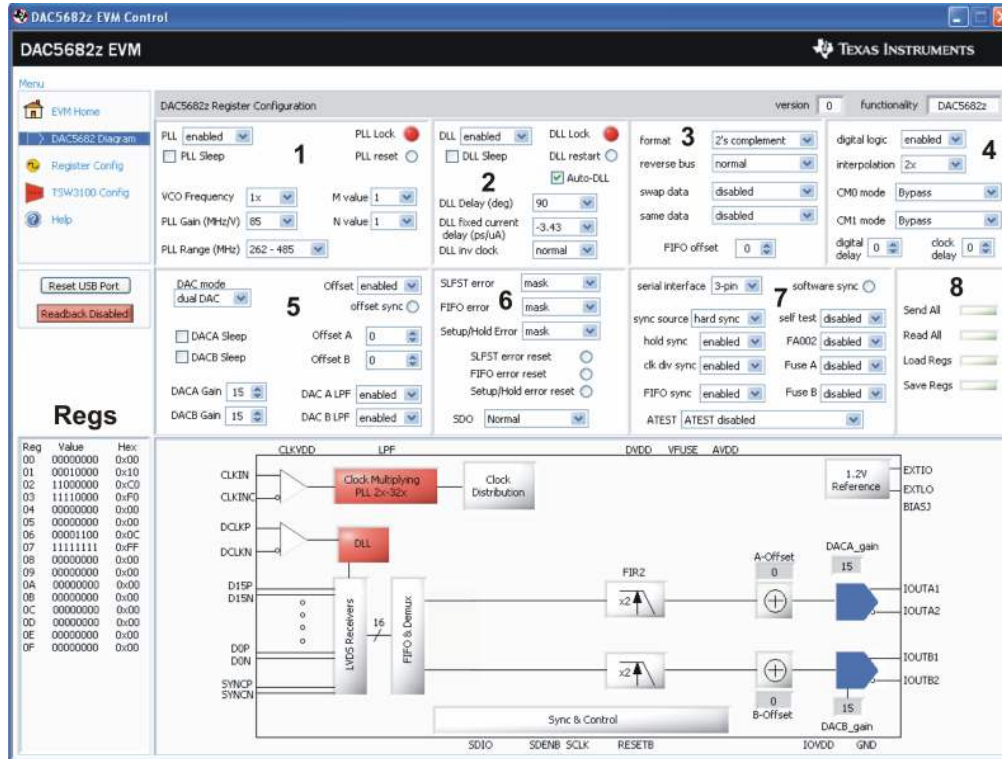
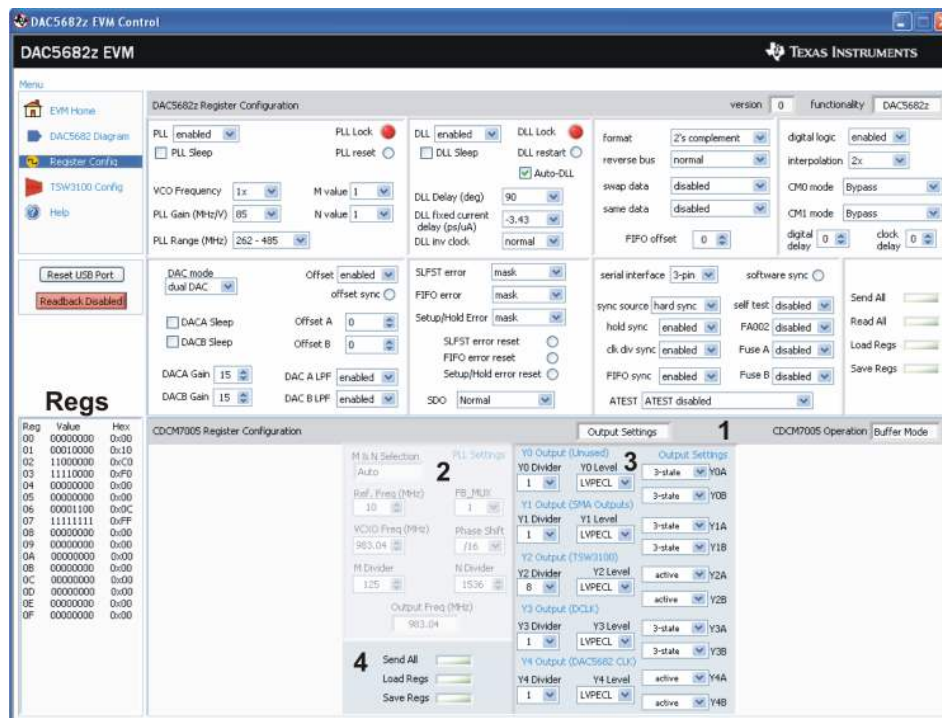

Figure 10. DAC Block Diagram and Register Configuration Settings
Figure 11. The CDCM7005 and DAC5682 Register Configuration Settings
- **DAC5682z Register Table**—displays DAC register settings in binary and hexadecimal formats (Figure 10 - Regs).
DAC5682z Register Table Area (See Figure 10, Figure 11, and Figure 12)